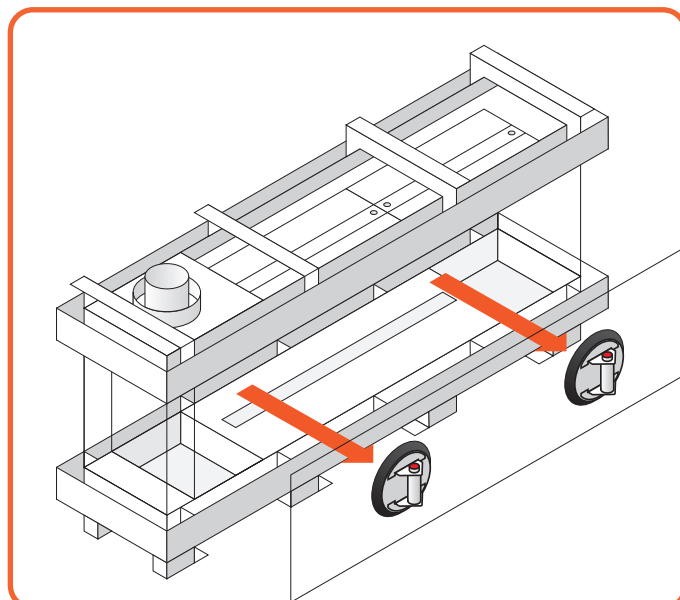

Figure 9.18 | Removal of long side glass
- Lift the window a little and tilt it out of the fireplace through the opening. (Figure 9.18)